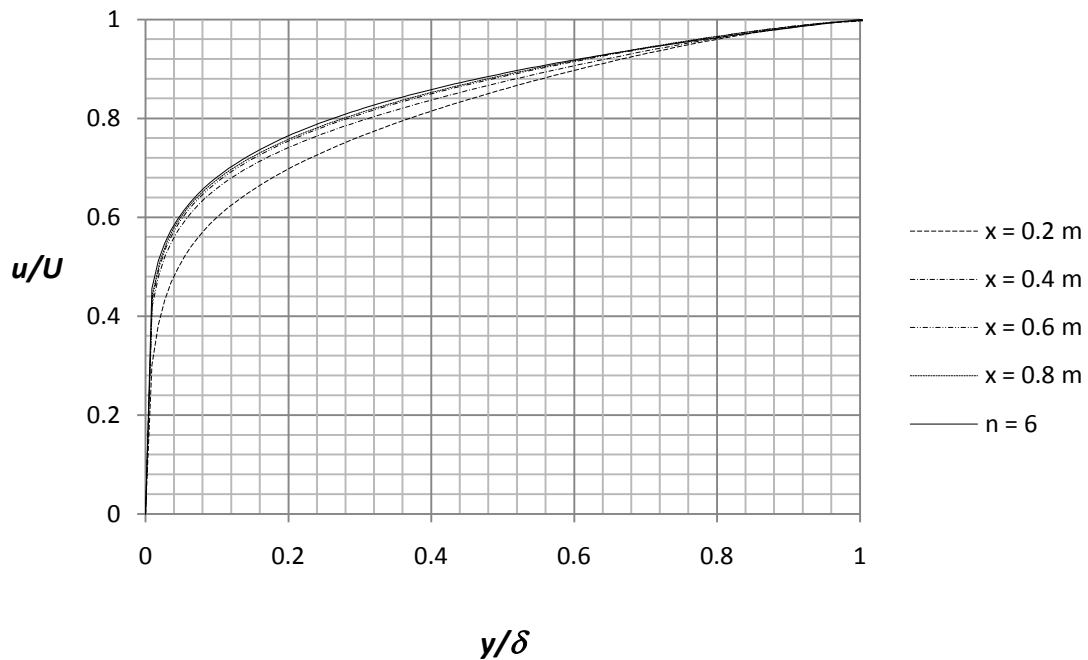

Figure 2.31 Profiles in figure 2.30a) compared with one-sixth power law for turbulent profile.
33. Place the file “xy-plot figure 2.31” into the **Local Disk (C:)/SolidWorks/COSMOSFloWorks/FloWorks/lang/english/template/XY-Plots** folder to make it available in the **Template** list. Repeat step 24 and choose the sketch $x = 0.2, 0.4, 0.6, 0.8$ m and check the box for **X-Velocity**. Rename the xy-plot to **Comparison with One-Sixth Power Law**. An Excel file will open with figure 2.31. In figure 2.31 we compare the results from FloWorks with the turbulent profile for $n = 6$. The power-law turbulent profiles suggested by Prandtl are given by
It is seen that for the higher Reynolds numbers in figure 2.31, that the velocity profiles resembles the one-sixth power law.